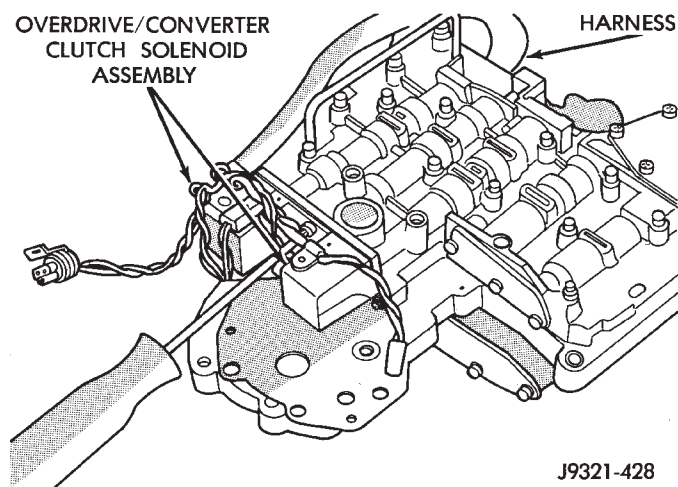

Fig. 97 Removing Overdrive/Converter Solenoid Assembly Screws
(9) Turn valve body over and remove screws that attach overdrive/converter solenoid assembly to valve body (Fig. 97).